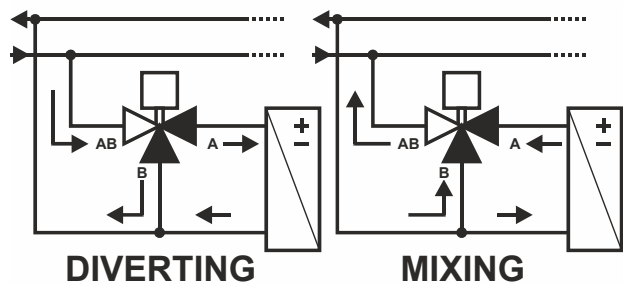

Fig. 6. Three-way control ball valve operation, diverting and mixing (not to scale)
8. Mount three-way valves as shown in Fig. 6, depending upon whether they are to be used for mixing or diverting control.